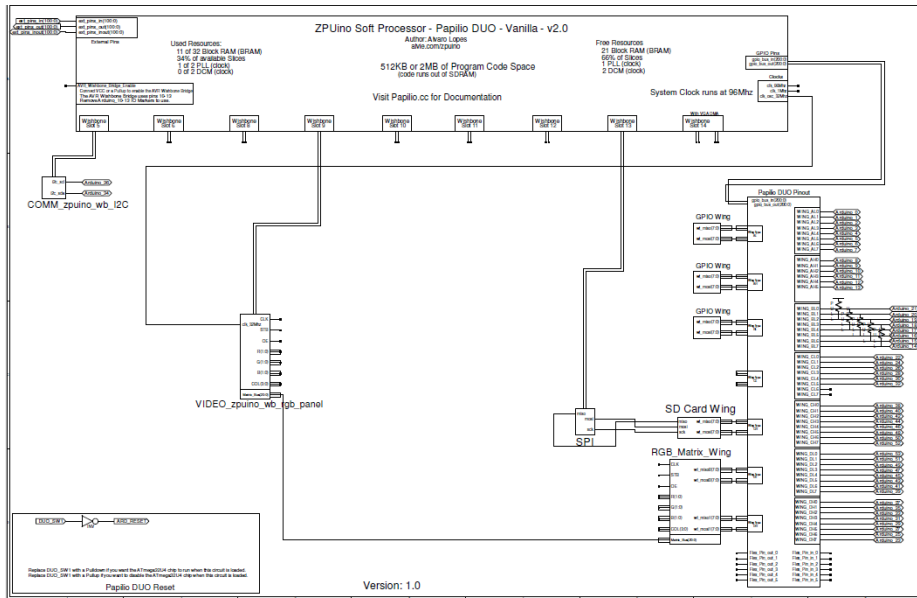

Figure 7-14 *Matrixman circuit view*
2. To view your design, click View Circuit in the top toolbar. A PDF file of the top-level schematic will open, as seen in Figure 7-14.